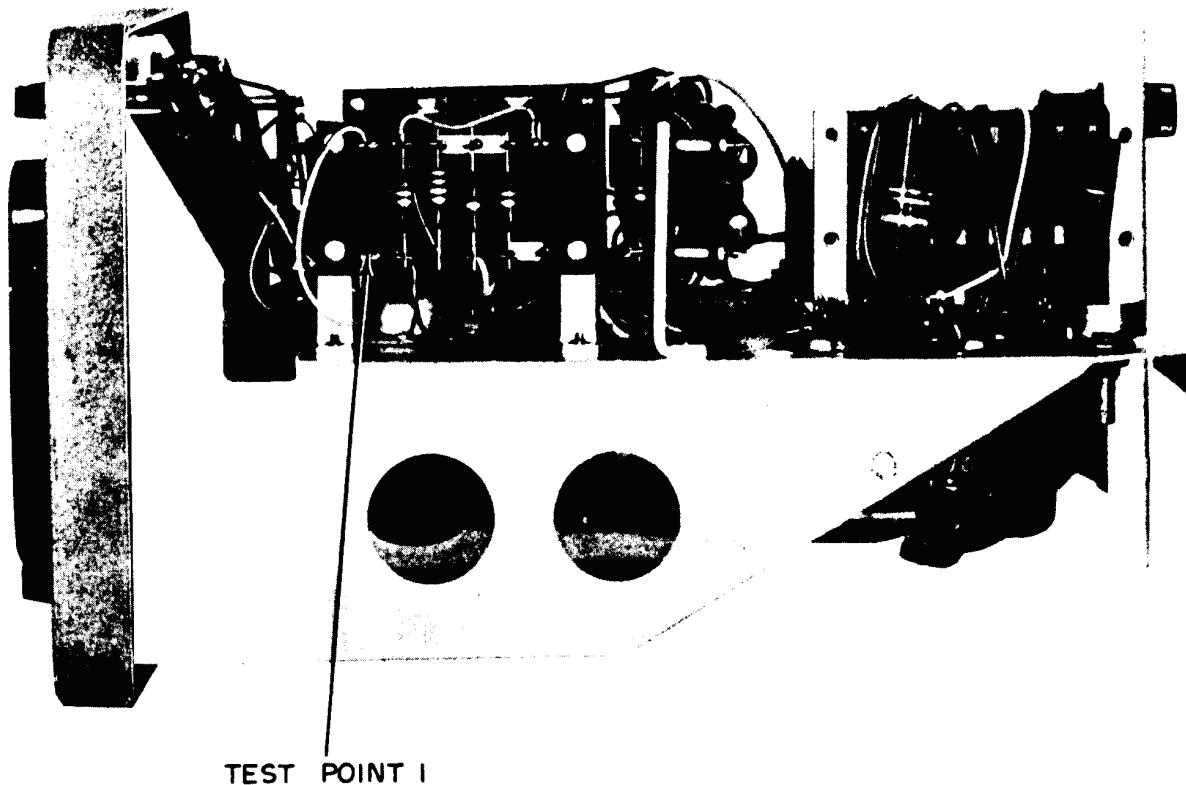
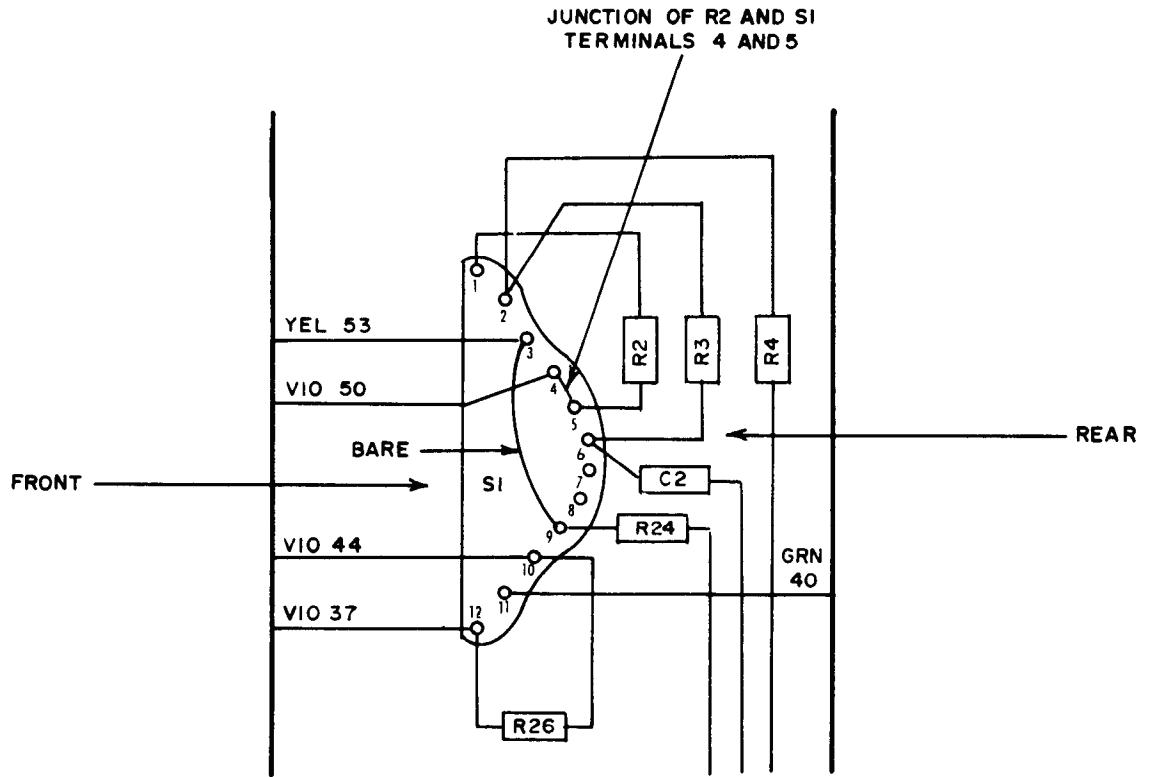

Figure 2. Test instrument - top view.
Figure 3. Wattmeters TS-779B/U and Model 451 BOLO RES switch S1 test point location - right side view
(1) Connect multimeter between TEST POINT 1 (fig. 2) and chassis ground. For TS-779B/U and General Microwave Model 451, connect multimeter to junction of R2 and S1 and terminals 4 and 5 (fig. 3).
- (4) Connect multimeter to TEST POINT 1 (fig. 2). For TS-779B/U and General Microwave Model 451, connect multimeter to junction of R2 and S1 terminals 4 and 5 (fig. 3).
- (5) Change **BOLO BIAS CURRENT (BIAS CURRENT** on TS-779B/U) switch positions until multimeter indicates 2.5 V ac.
- (6) Adjust **ZERO SET COARSE** and **FINE** controls for a 3.0 V ac indication on multimeter.
- (7) Connect multimeter between bolometer and TI **BOLOMETER** connector.